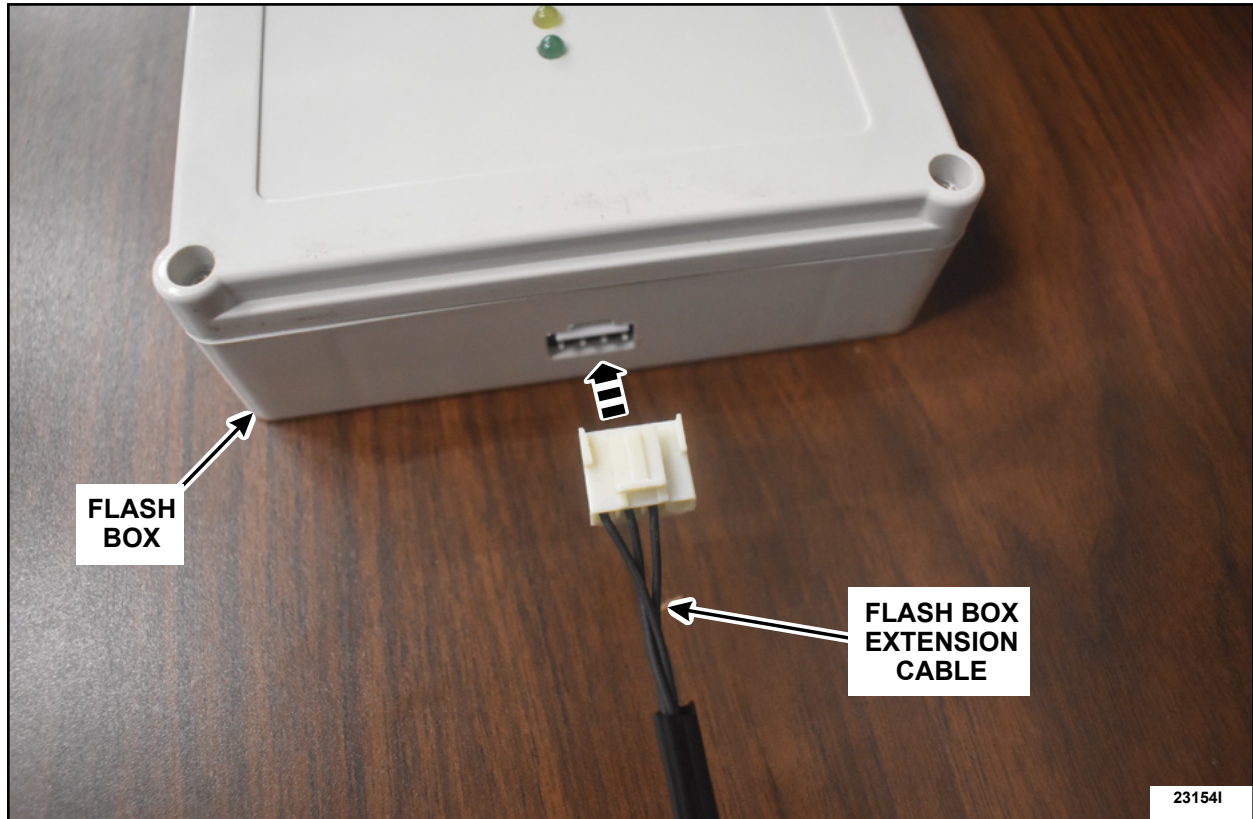

FIGURE 7
5. Install the flash box extension cable. See Figure 7.